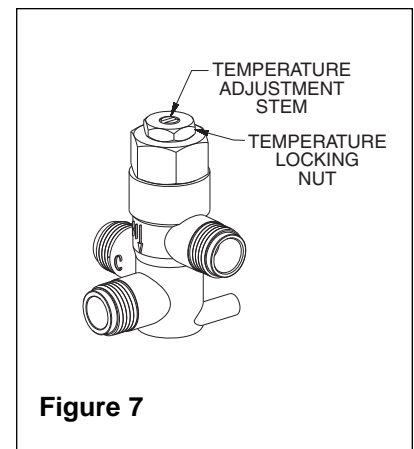

Figure 7
- Using a blade screwdriver, turn the adjustment stem **counterclockwise** to **increase** the temperature or **clockwise** to **decrease** the temperature (see Figure 7).